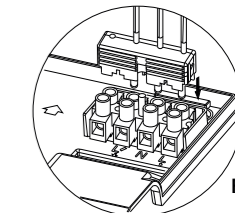

Fig. 11
- 3.5.5** Plug the quick connector onto the terminal (fig. 11).